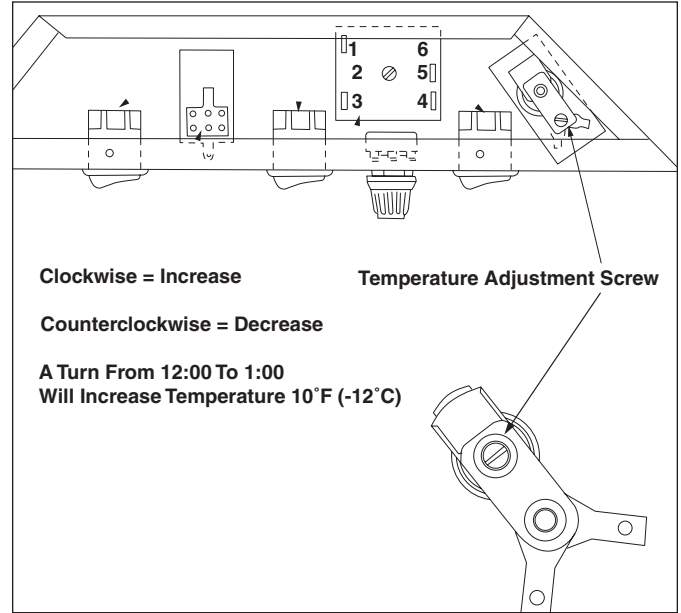

Figure 3. Thermostat Adjustment (Top View)
4. Turn the adjustment screw (Figure 3) counter-clockwise to decrease the temperature or clockwise to increase temperature.